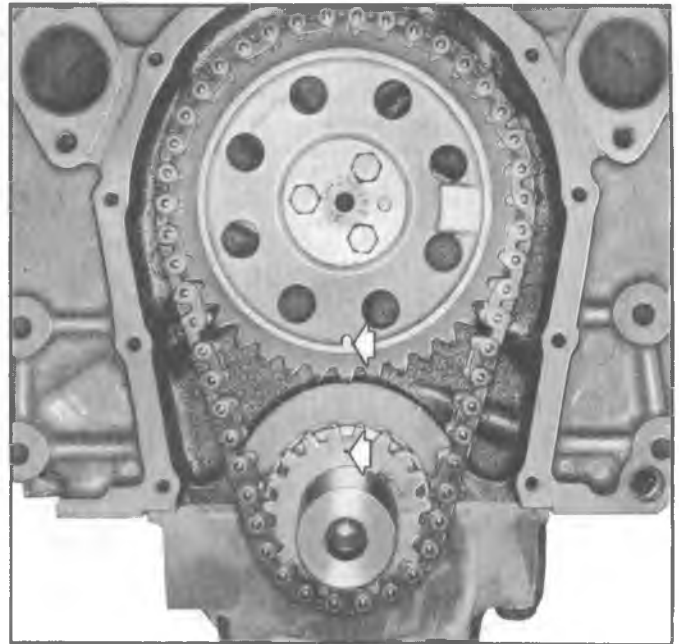

Fig. 13V—Timing Sprocket Alignment Marks
2. Crank engine until marks on camshaft and crankshaft sprockets are in alignment (fig. 13V).
sprocket vertically with the chain hanging down, and align marks on camshaft and crankshaft sprockets. (Refer to fig. 13V and 17V).